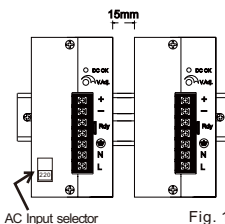

Fig. 1
1. Making sure wire connection of the designations and input selector are correct before turn on AC source. AC input selector is located at left (Fig. 1) of front panel of AD1vvv-xyS models. The connector can withstand 8 lb-in torque Maximum and use copper connectors only, 60/75°C and installation in Pollution Degree 2 environment Max. surrounding air temperature 40°C.
3. The left housing of power unit is design as heatsink, please keep 15mm Min. for dissipating heating. (Fig. 1)